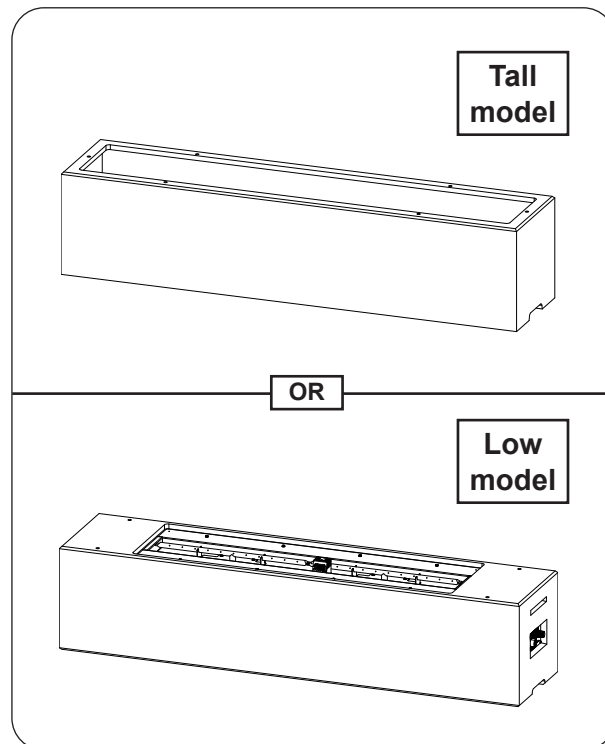

Fig. 26-1 Place base
1. **CAREFULLY** place the base in an appropriate location (see Fig. 26-1, and refer back to the LOCATION section if needed).